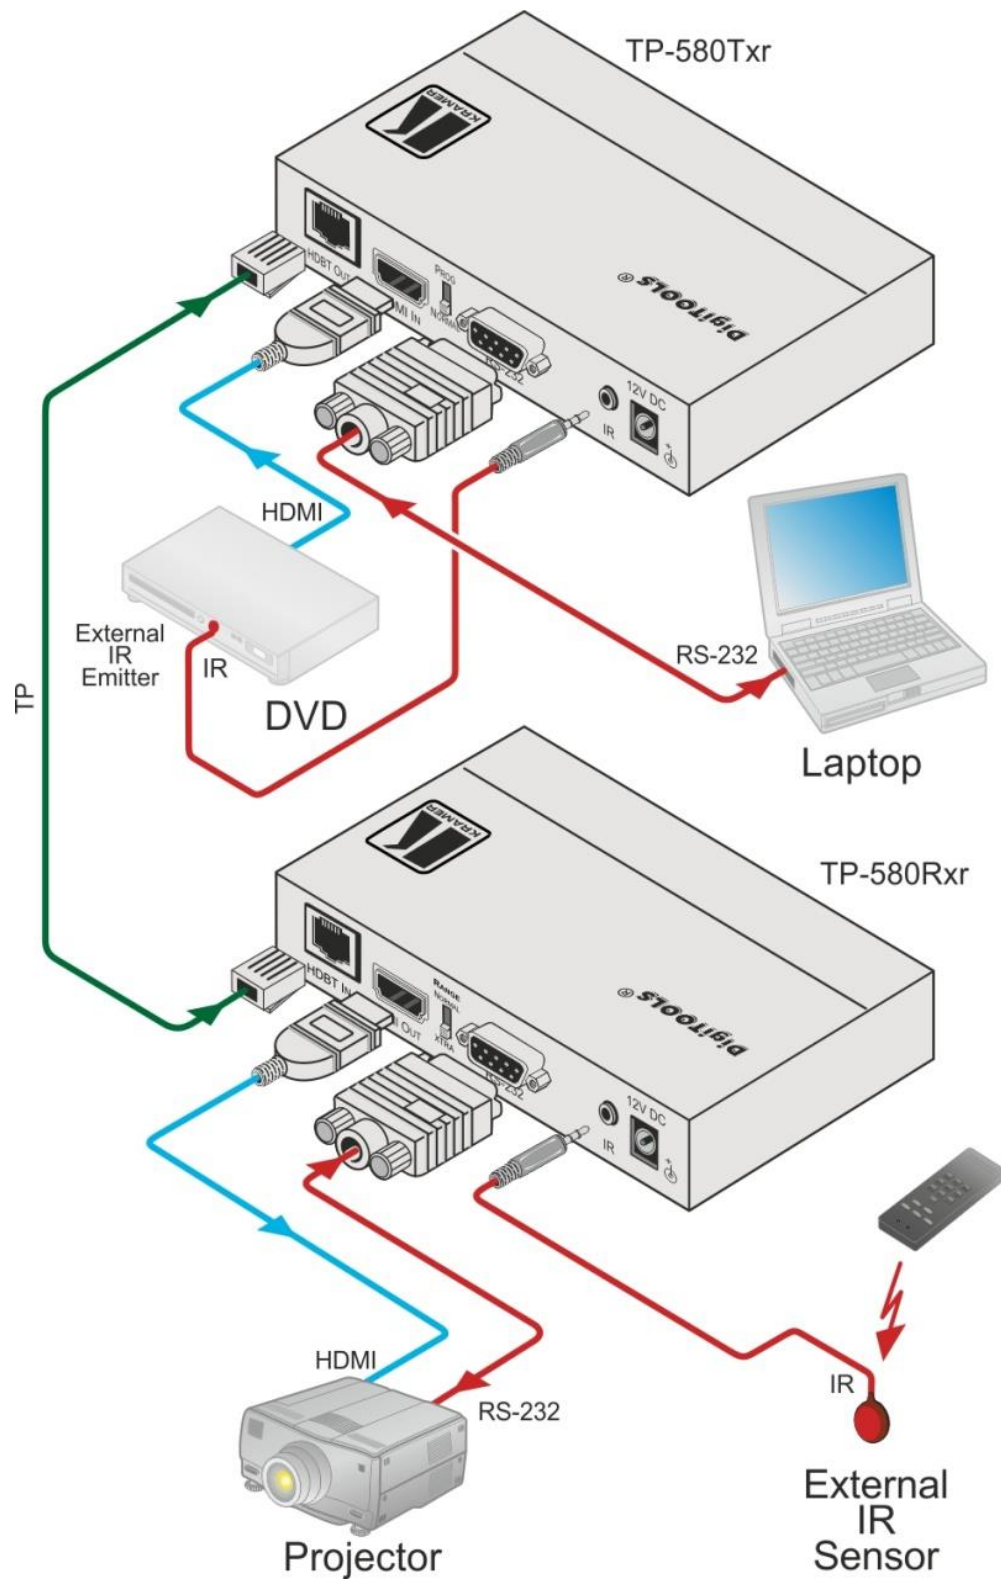

Figure 3: Connecting the TP-580Txr/TP-580Rxr Transmitter/Receiver
You can use the **TP-580Txr HDMI Line Transmitter** and the **TP-580Rxr HDMI Line Receiver** to configure an HDMI transmitter/receiver system, as shown in the example in Figure 3.
5. 12V DC power adapter to the power socket and connect the adapter to the mains electricity (not shown in Figure 3).
10. 12V DC power adapter to the power socket and connect the adapter to the mains electricity (not shown in Figure 3).